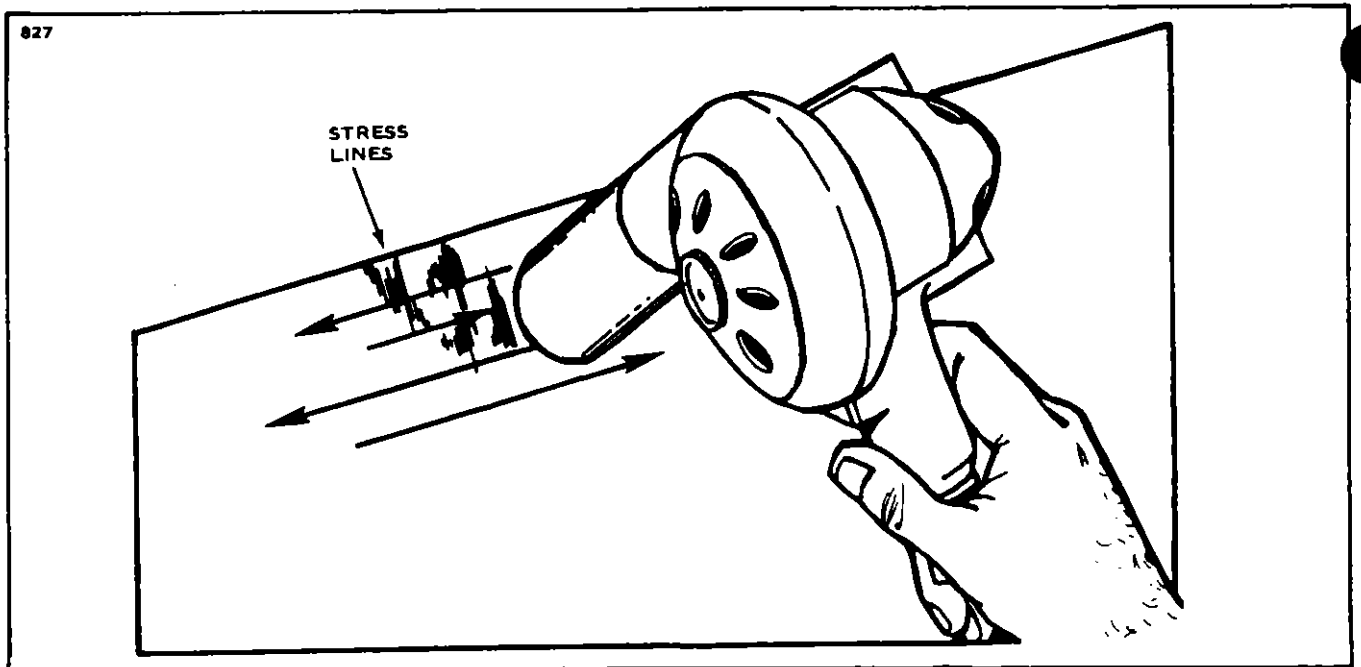

Figure 4-20. Repair of Stress Lines
f. Stress Lines: (Refer to Figure 4-20.)